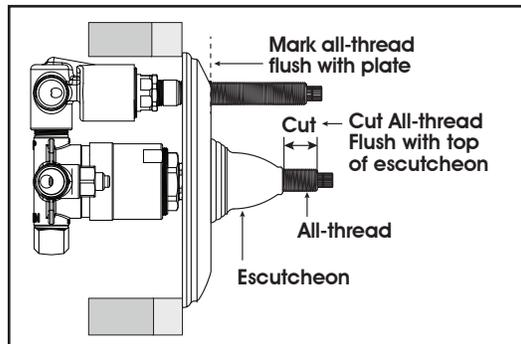

FIG. 4b
2. Screw on escutcheon to (center) all-thread and mark nipple where excess thread needs to be cut off, allowing stem to extend. Next mark (diverter) all-thread flush with trim plate and remove, do not cut yet see step 4. FIG 4b.